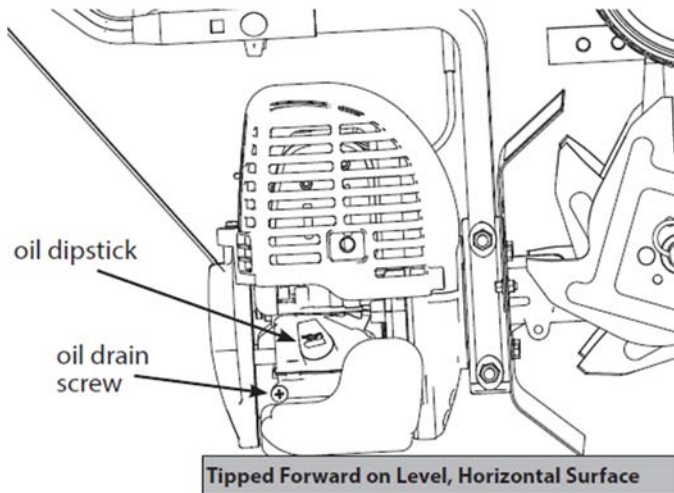

Figure 4
- Engine must be tipped forward with gas tank down when checking oil level or filling with oil (Figure 4). Failure to do so can result in overfilling the engine with oil which will impair the engine's performance.
Be sure the engine is located on a level surface before checking or refilling oil. Proper position for checking oil level or refilling oil is face down, with the gas tank of the Tiller/Cultivator down on a horizontal surface (Figure 4).